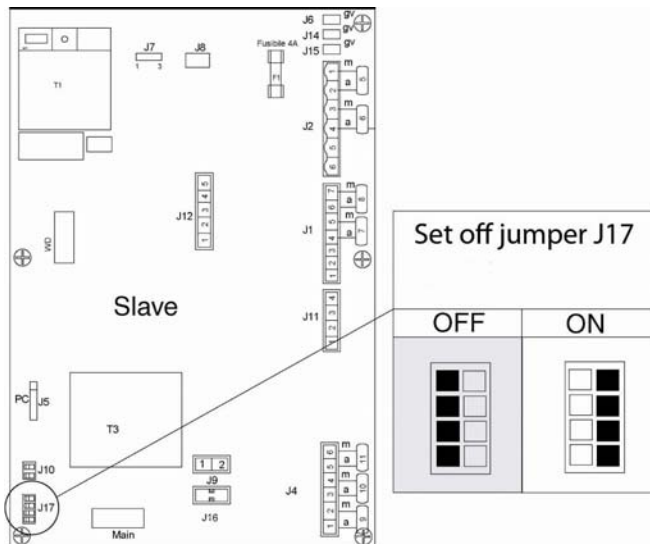

Figure 26
- Set all four J17 switches located on each Slave of the thermal assembly on the Off position (Figure 26);